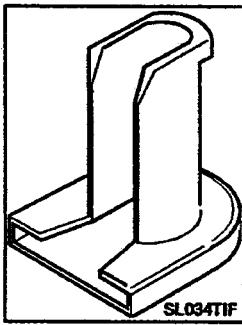

**Figure 2-19**
**NOTE: The mounting screw serves as a locating pin to hold the valve in position on the mounting bracket. By partially removing the screw, the water valve can now be slid to the left and removed from the bracket (Figure 2-19).**